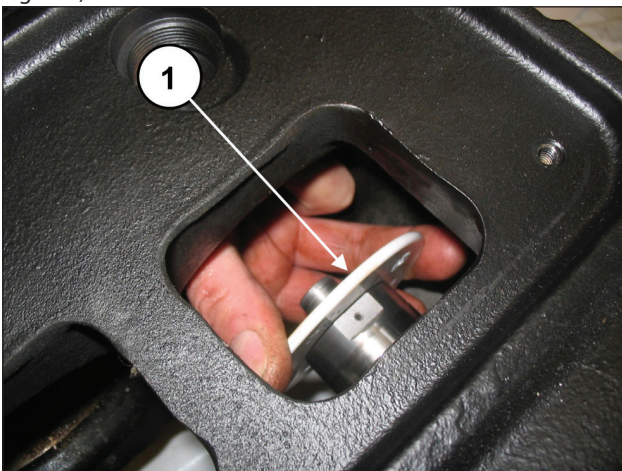

Fig. 126
Slip the spray-guard rings off the piston heads (pos. ①, Fig. 126).